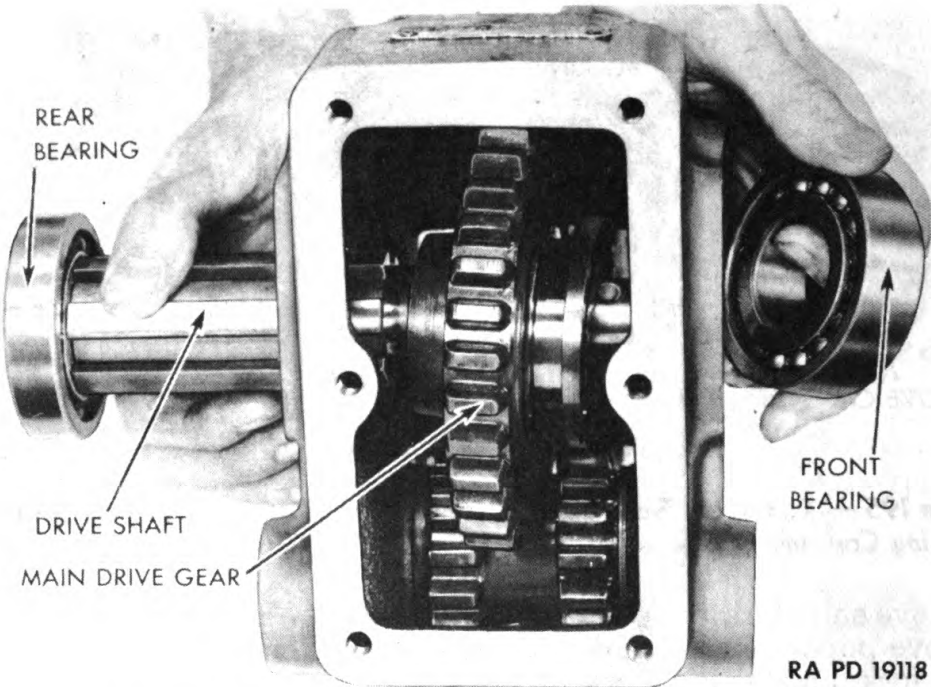

Figure 199 — Removing Power Take-Off Drive Shaft .
f. Remove Mainshaft. Drive mainshaft toward rear of case out of front bearing and out of main drive gear (fig. 199). Press bearing off from shaft.